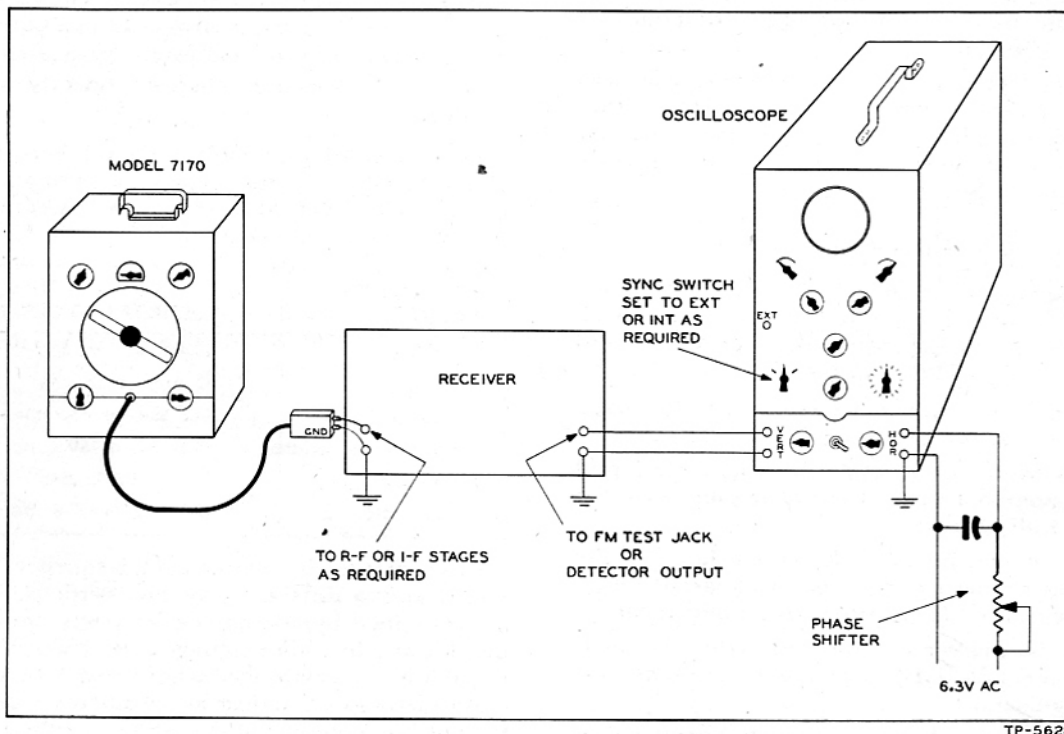

Figure 17. Test-Equipment Connections for Alignment with FM Signal
1. Connect the vertical deflection terminals of the oscilloscope to the detector audio output and ground (usually an FM test jack is provided on the radio chassis for this purpose). Connect the horizontal-deflection terminals to the phase-shifting source and ground (see figure 17). Set the horizontal sweep control for external input.
1. Connect the equipment as shown in figure 17.